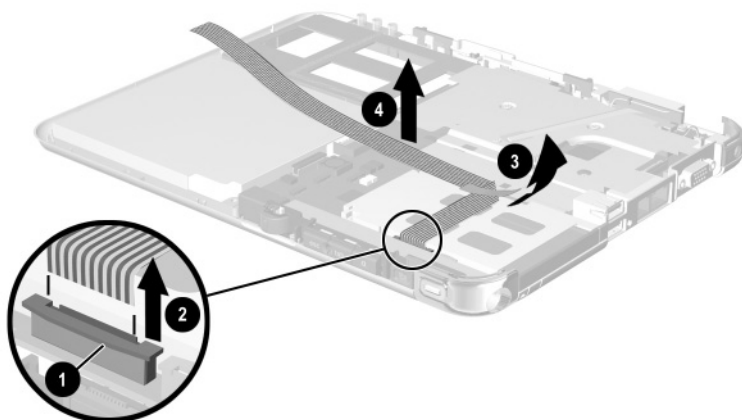

Figure 5-18. Removing the Speaker Cable
6. Release the system board ZIF connector ❶ to which the speaker cable is attached and disconnect the cable ❷ from the system board (Figure 5-18).
7. Remove the tape ❸ that secures the speaker cable to the PC Card assembly.
8. Remove the speaker cable ❹.